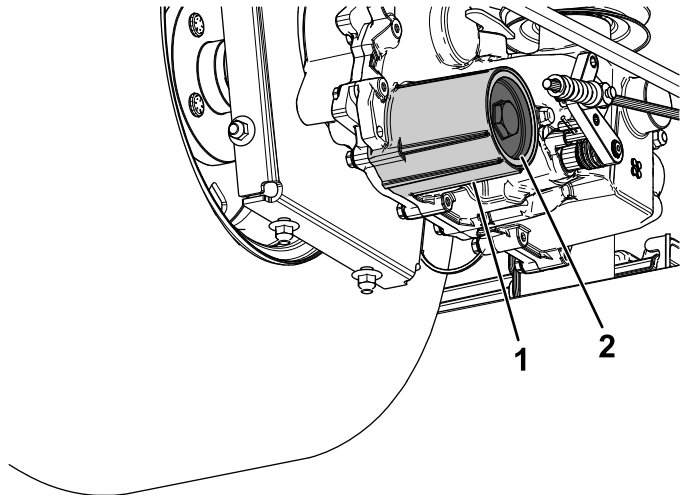

Figure 89
7. Remove the hydraulic-fluid filter cover from the transaxle to drain the fluid (Figure 89).